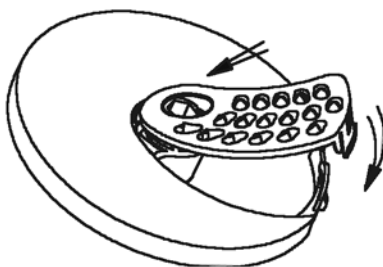

Figure 11
2. Insert the Coarse or Fine Shredding Blades into the Blade Holder. (See Figure 11) See ASSEMBLY INSTRUCTIONS for specific details.